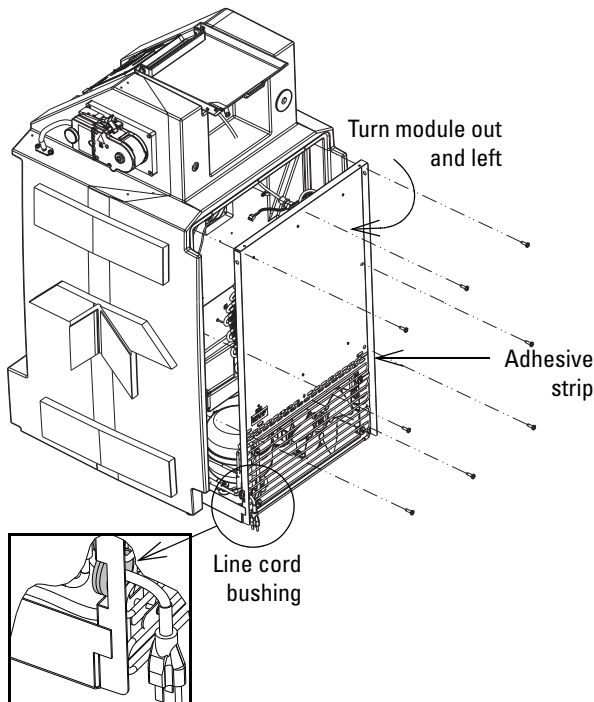

Figure 3: Removing the refrigeration module
- Remove the refrigeration module mounting screws (Figure 3).